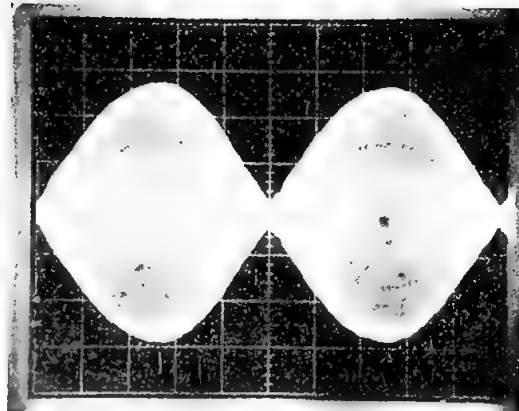

FIGURE 37. HEAD RADIAL ALIGNMENT
- Alternately select heads 0 and 1, verifying that the lobe pair associated with each head have amplitudes within 70% of each other. If the alignment of either head fails to meet the specification, continue with the procedure (reference Figure 37).